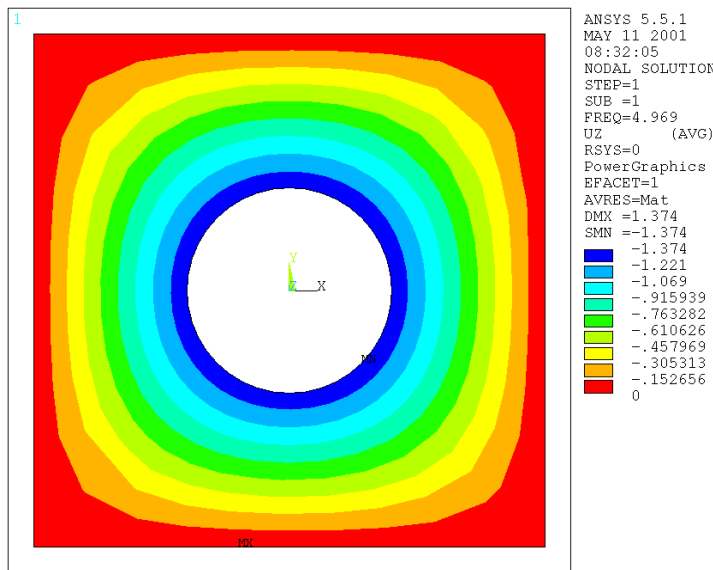

Figure 6.2
5. To view the other modes, go back to the General Postprocessor menu, click 'Next Set' under the '-Read Results-' heading, then repeat steps 2-4 above. The first mode is shown in Figure 6.2